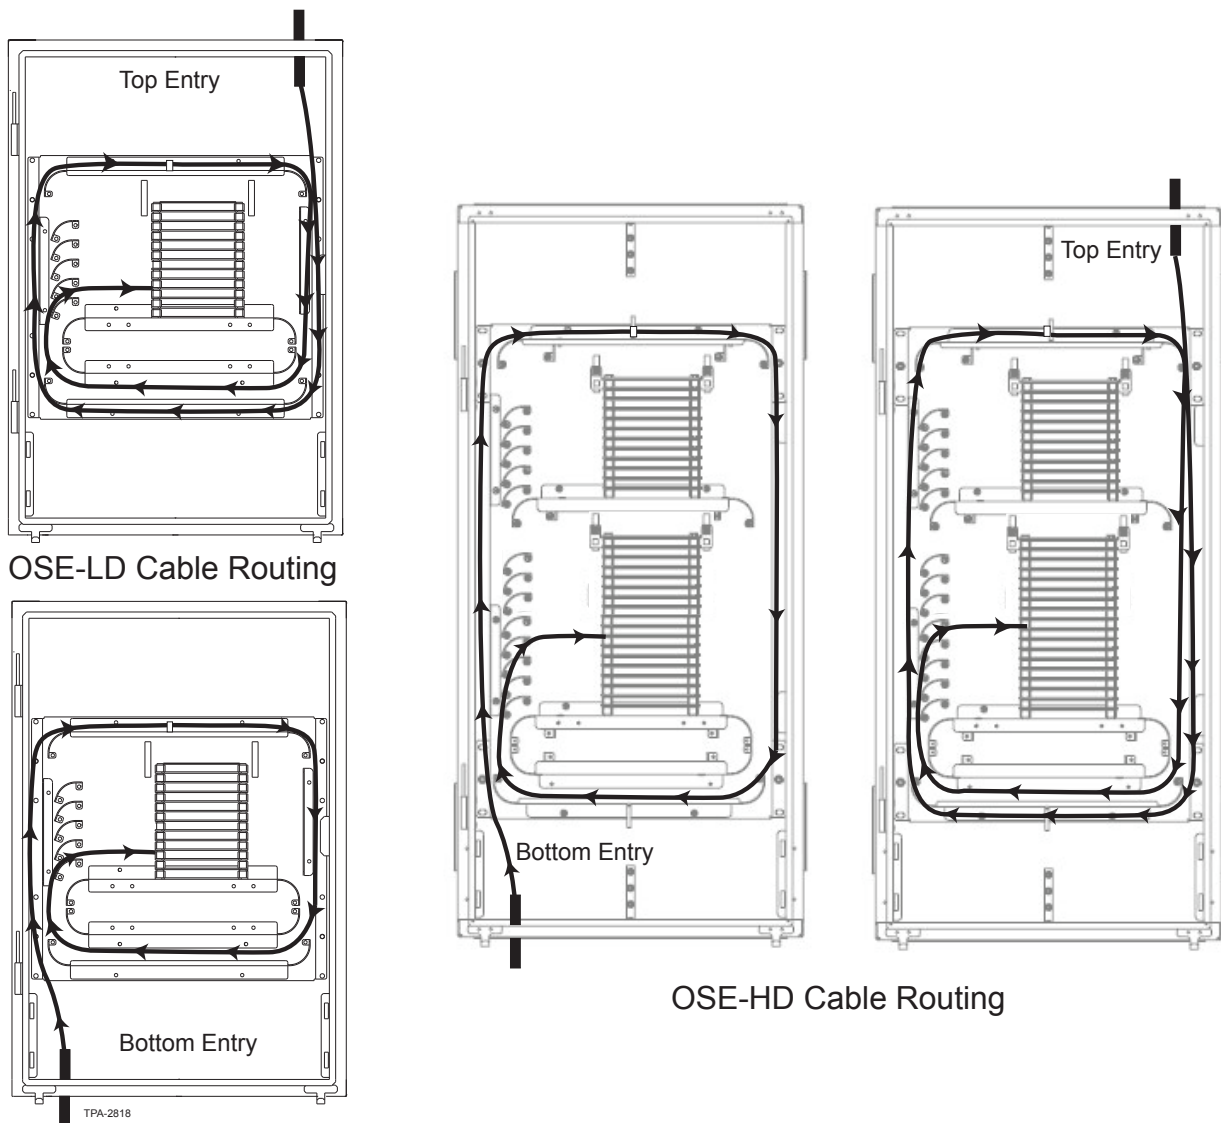

Figure 6 — Cable Routing
- Step 2:** After making the desired number of slack loops, route the buffer tubes around the center routing guide and between the divider plates and splice tray guides into the splice trays Figure 6. Do not bend cable too sharply.